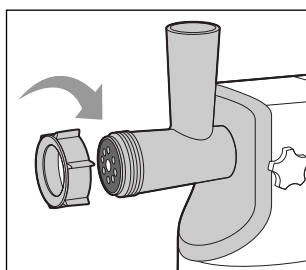

Fig. 4
5. Tighten the ring nut. Take care to avoid over-tightening (as shown in Fig. 4).